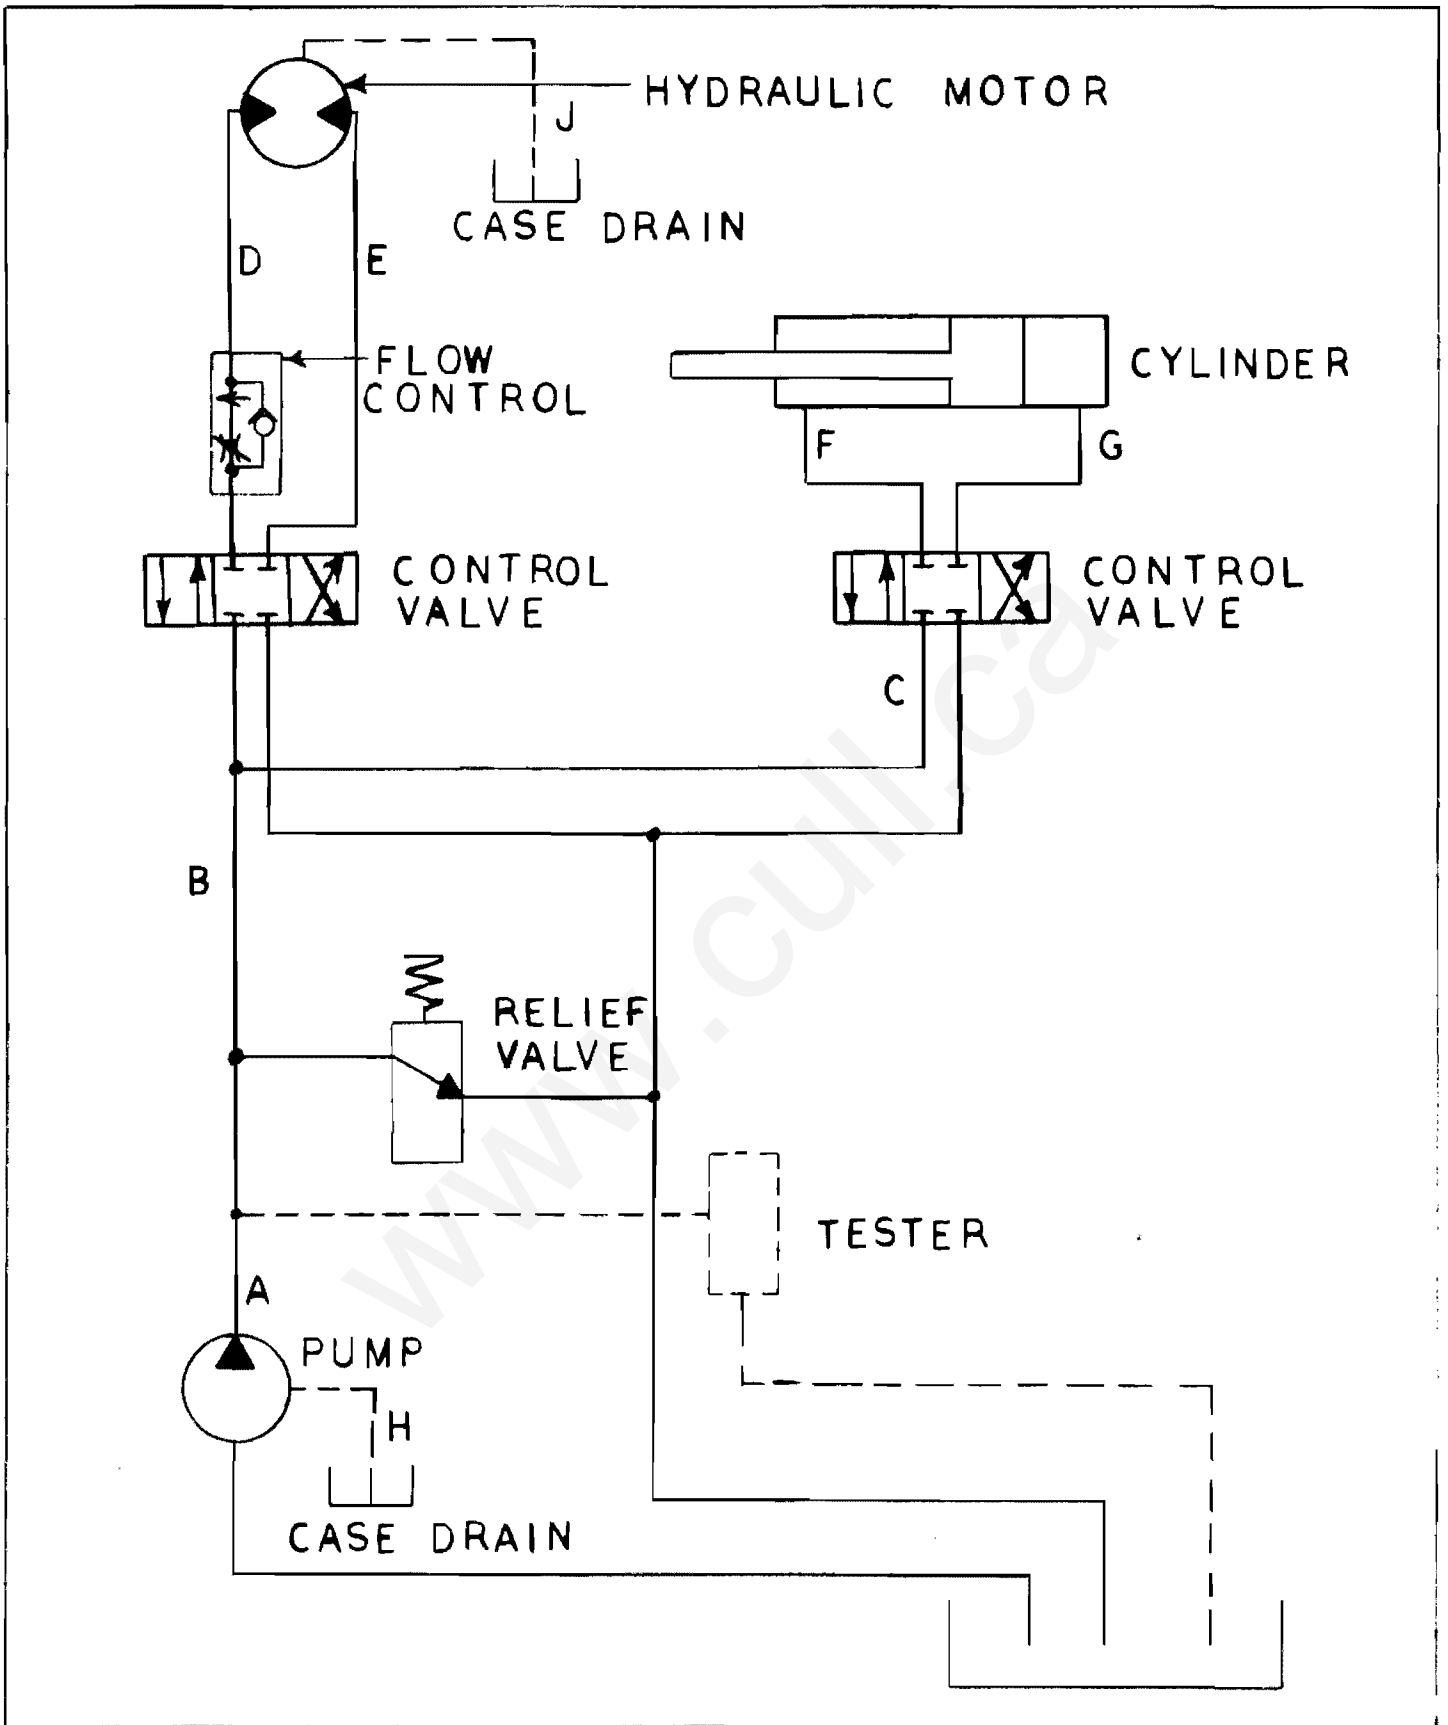

Figure 4-2, Typical hydraulic circuit
4-7. The tester is normally connected from a point in the circuit, without restriction to the system reservoir. Refer to figure 4-2, points a, b, and c.
4-10. Refer to figure 4-1, Operating Instruments and Controls, and figure 4-2, System Under Test. Figure 4-2 is a hypothetical hydraulic circuit which may be considered representative of actual systems. Numbers in parenthesis refer to instruments and controls in figure 4-1 and letters in parenthesis refer to test points in figure 4-2.
4-13. The system under test may be disconnected at successive points such as (B) through (J) figure 4-2 and the flow through the tester recorded in the loaded and the unloaded condition. Always connect the tester return directly to the reservoir or through an unrestricted return line to the reservoir. If the system contains a heat exchanger in the return system for cooling, the tester return line may be connected to pass through the cooler provided the back pressure does not exceed 2000 psi. Refer to paragraph 4-17 following for evaluation of the test results.